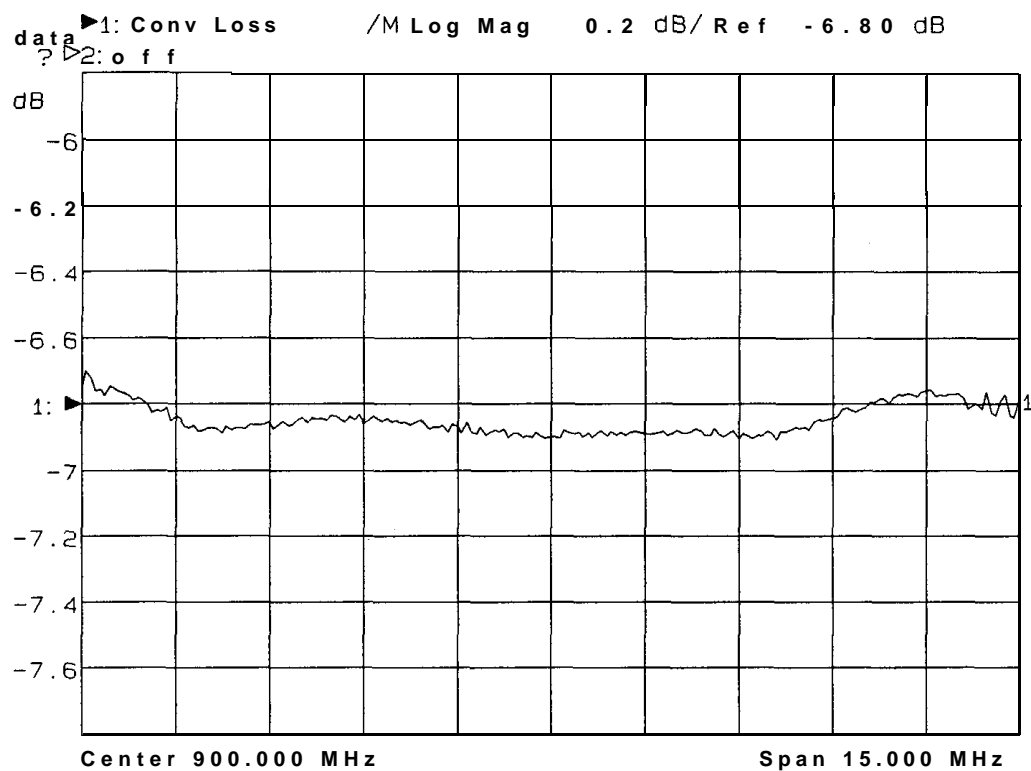

Figure 3-15. Example of a Conversion loss Measurement
2. To interpret the conversion loss measurement, refer to Figure 3-15 or your analyzer's display if you are making this measurement on your instrument.